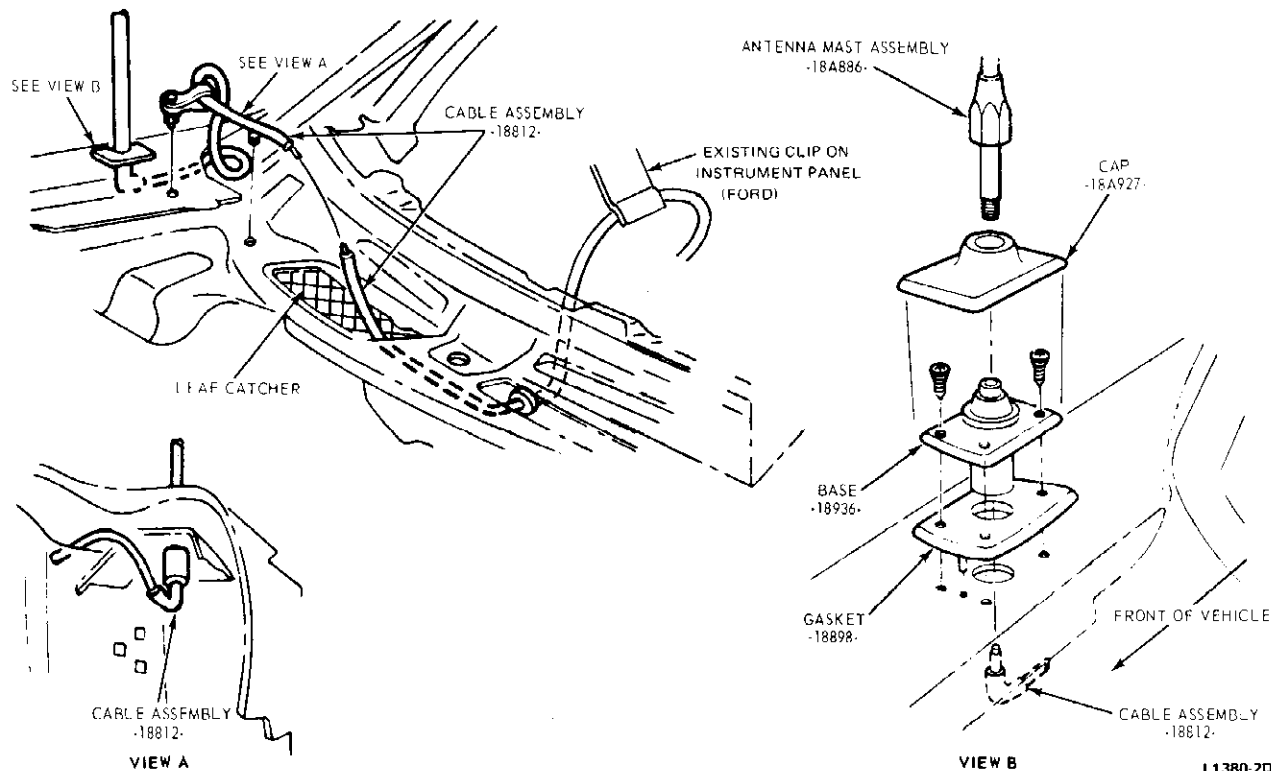

FIG. 6 Antenna Installation—Ford and Mercury
1. Remove the snap cap from the antenna (Fig. 6).
4. Remove the plastic leaf catcher and pull the cable and grommet through the retainer wall (Fig. 6).